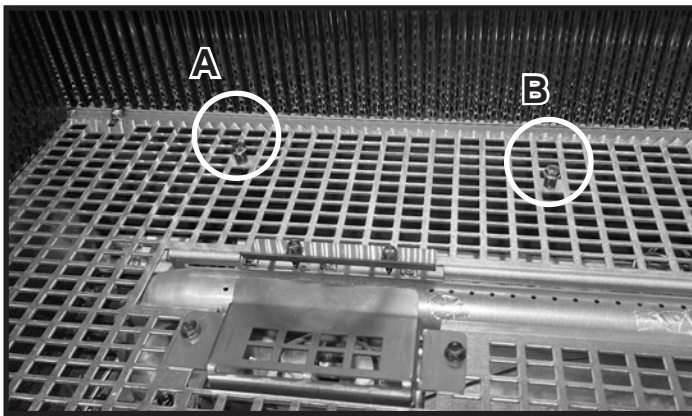
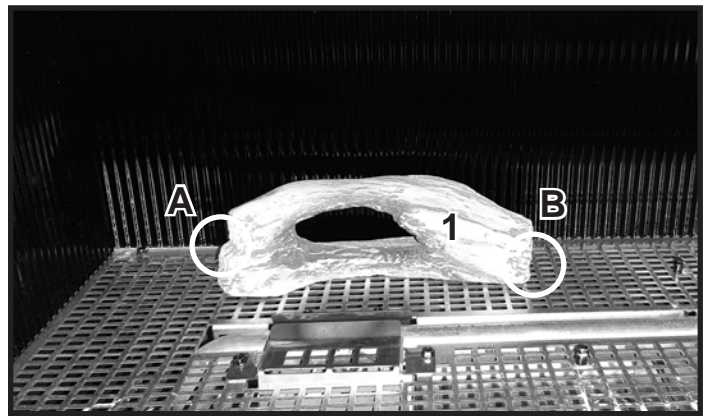

Figure 1 Log Pins for Log #1
Figure 2 Install Log #1
**Log #1:** Center Log #1 left to right between log pins (A) and (B) as shown in Figure 1 and Figure 2. Slide Log #1 back until it contacts both log pins.